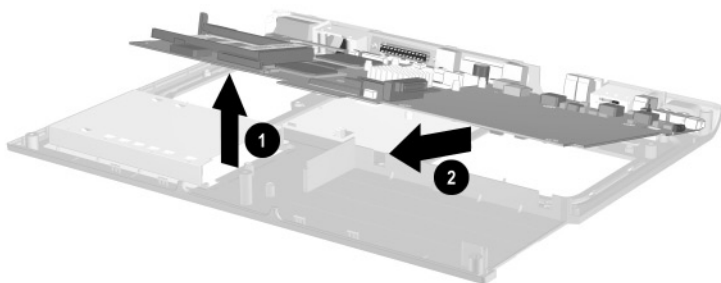

Figure 5-45. Removing the System Board
7. Lift the front edge of the system board until it rests at an angle ❶ (Figure 5-45).
8. Slide the system board forward ❷ and remove it from the base enclosure.